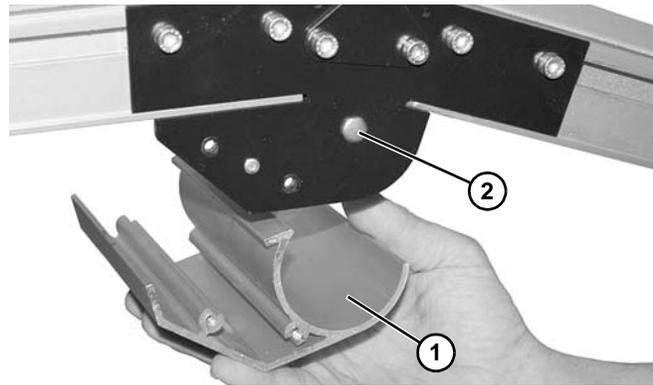

Figure 65
2. Remove guard (**Figure 65, item 1**).